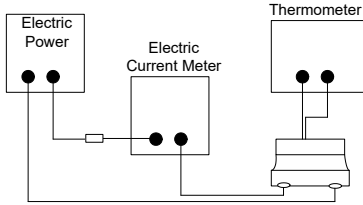

Fig. 4.3.4-1
- b. Test equipment (see **Fig. 4.3.4-1, Fig. 4.3.4-2**): Electric Power, Electric current meter, Thermometer.